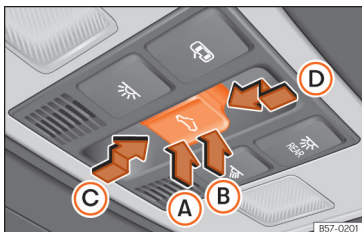

Fig. 66 On the interior roof lining: sunroof button.
The Fig. 66 button has two levels. The first level switches the sunroof to the tilted position, opening or closing it fully or partially.
- Within approximately 5 seconds of having activated the roll-back function, press the <=> >>> Fig. 66 button to the second level in the direction of arrow Ⓓ until the sunroof closes completely.